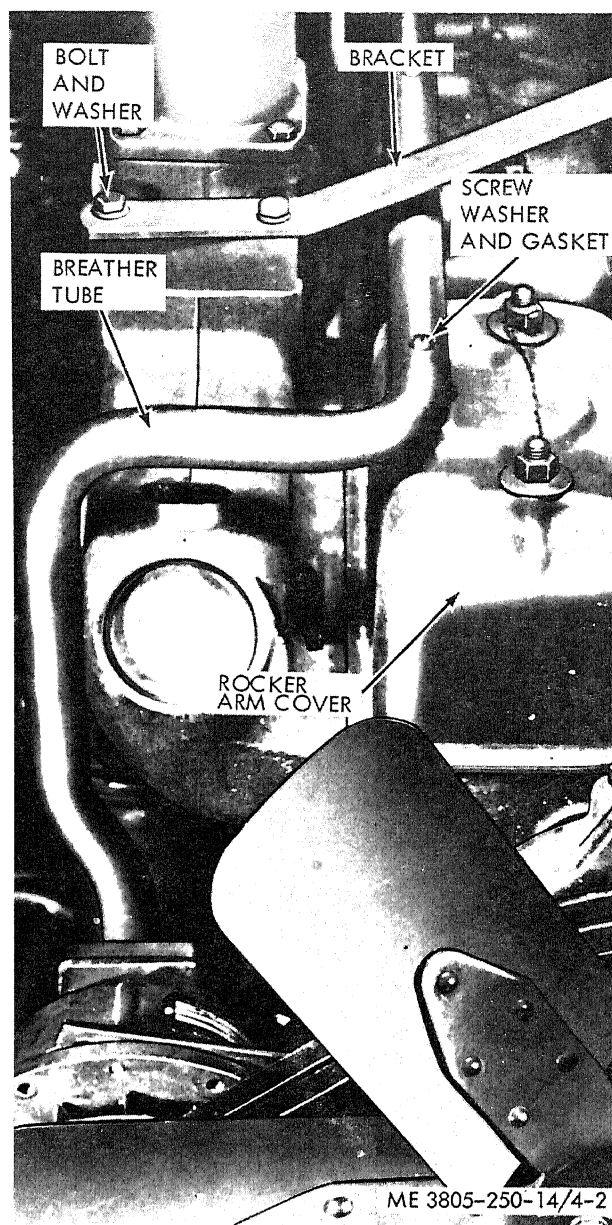

Figure 4-2. Crankcase breather.
a. *Replacement.* (fig. 4-2)
(1) Remove the exhaust pipe (para 4-22), air cleaner (para 4-21), side engine panels, and hood (para 4-51).
(2) Remove three screws, washers, and gaskets securing the breather tube to the rocker arm cover. Discard the gaskets.
(3) Remove two bolts and washers which secure the tube bracket. Remove the tube.
(4) Install the tube by reversing the removal procedure.